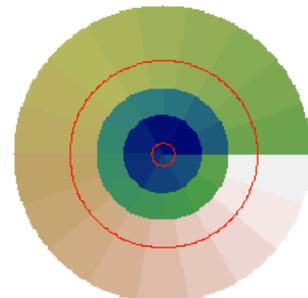

Figure 3: CWFS Subaperture map
- `wfs.nsubperring`: typically, to date, most of the curvature WFS for astronomy were based on a polar design: rings of subapertures. `wfs.nsubperring` is a pointer to a long vector that contains the number of subaperture per ring: the first element is the number of subapertures in the first ring, the second element the number of subaperture in the second ring, etc.. so that `wfs.nsubperring` could look like `&([6,12,18])` for a system with 3 rings of with 6, 12 and 18 subapertures (the `&` is because `wfs.nsubperring` is a pointer). `yao` automatically computes the inner and outer radius of each ring so that every subaperture receives the same amount of light. The user can modify this behavior by setting `wfs.rint` and `wfs.rout` to specify the inner and outer radius of each ring. (show/hide details). The subapertures are defined on an array, that is, each pixels of an array of the same size as `ipupil` belongs to one and only one subaperture. After an `aoinit()`, you can get a view of the subaperture number map (figure 3) by calling: